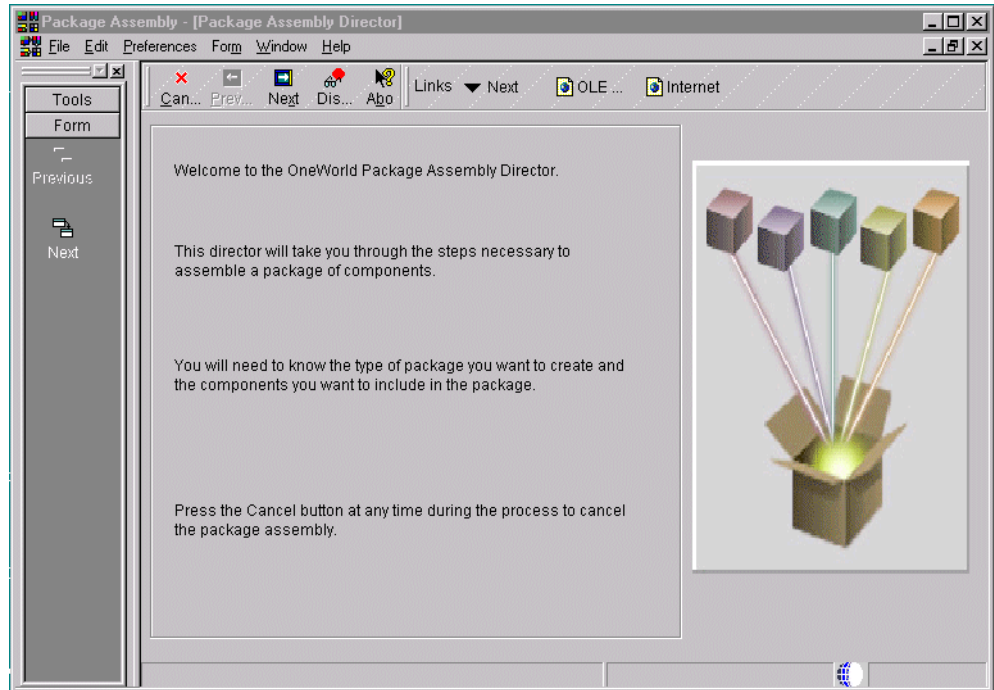

Figure 141. Package Assembly Director
2. To assemble a new package, click **Add**. The Package Assembly Director launches (Figure 141).